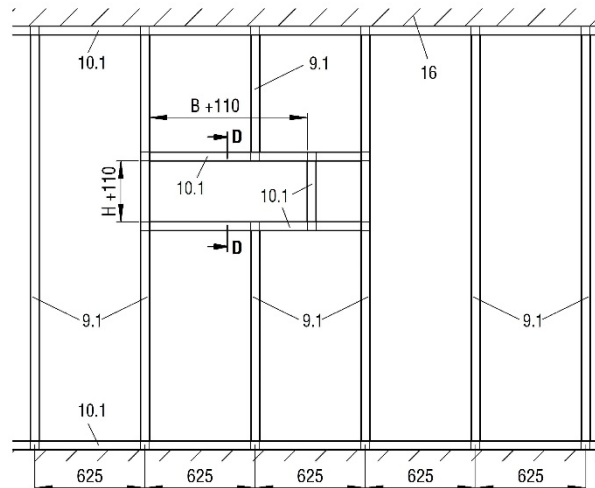

Figure 21: Metal posts plus required exchange parts for dry installation with installation frame ER-P1
- Mount the metal posts and the wall in accordance with the specifications of the wall manufacturer and the required exchange parts as shown on Figure 21. Leave a recess for installing the BKP-EN with mounting frame type ER-P1 (pos. 17).
- Construct a circumferential reveal (pos 20.1) with 20 mm plasterboards and screw them centrally to the circumferential metal profile frame (pos. 19.1 - fastening: e.g. drywall screws \varnothing 3.5 x 35 mm, screw distance \leq 250 mm, but at least 2 screws per side).
- The fire damper is fastened to the supporting structure (exchange profiles - pos. 10.1) on the B sides (top and bottom) using two fixing lugs each (pos. 18; 4 per damper). The fixing lugs are fastened to the supporting structure using 2 drywall screws for each lug (pos. 19.2, e.g. \varnothing 5.5 x 90 mm).